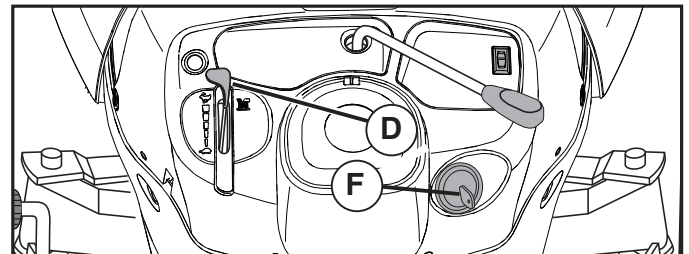

Fig. 8
- Move throttle control (D) to fast position.
- Turn ignition key (F) to "STOP" position and remove key. Always remove key when leaving tractor to prevent unauthorized use.
### TO USE THROTTLE CONTROL (D) (See Fig. 8)